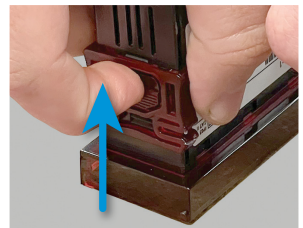

Figure 3: Pull the clips in the direction shown by the arrow.
2. Remove the ratchet clips from the controller by pressing down on the tab and sliding back until they are off the controller as shown by the arrow in Figure 3.